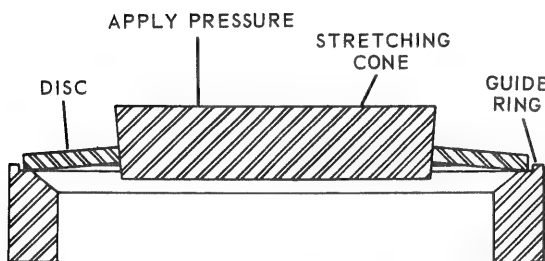

Figure 2-20. Stretching Disc
a. Place guide ring on base of hydraulic press. (See figure 2-20.)